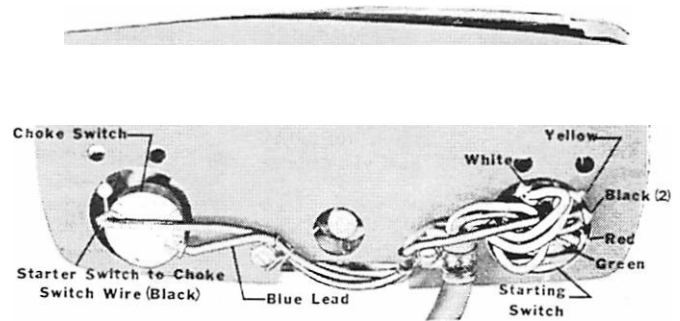

Figure 11. Backing Plate, Electric Control Housing
3. Remove throttle arm and throttle control cable assemblies from front half by pulling backing plate away from front housing. Backing plate holds choke control switch leads and starter switch leads with 2 small nylon cable clips and one large clip. (Figure 11)